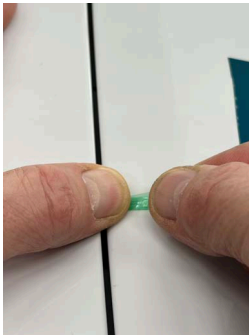
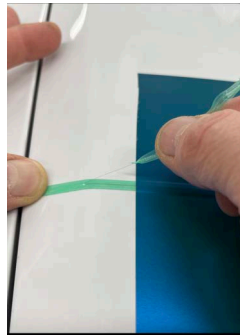

Figure 8.
Figure 9.
5. Firmly grasp the end of the tape with your thumb and index finger, positioning your two thumbs close together to start the filament as shown in Figure 8. Gently pull the line to tear the carrier tape and expose the filament. Pull the line back and not upward (see Figure 9), stopping before the edge of the graphic.